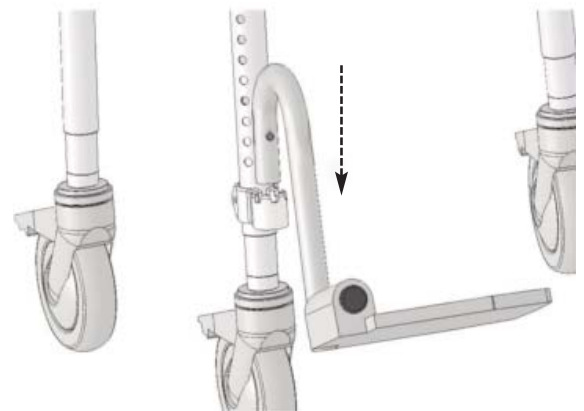

Figure 7
**F** Install the swing-away footrests by sliding the gooseneck tubing/foot paddle into the clamp that is attached to the front legs (Refer to Figure 7).